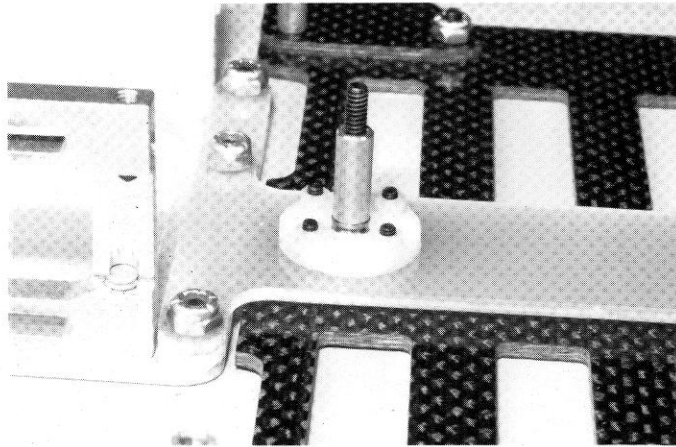

**Fig. 30**
□ **Fig. 30**— Install the #8315 left and right hand nerf bars, as shown, with 4/40 flat head screws and a locknut in front and the #8311 standoff brace in the rear.